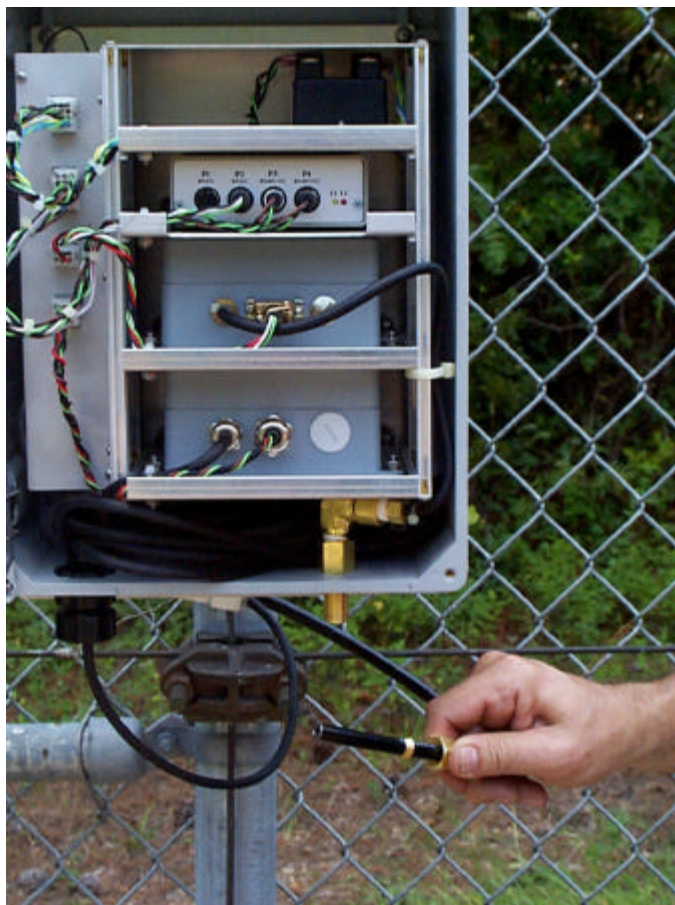

Figure 9 Connecting the Barometric Pressure Hose
13. Connect the pressure hose extending from the base of the fold-down arm to the Swagelock fitting on the bottom of the GSOS Payload. The Swagelock fitting uses a ferrule that crimps down on the pressure hose when the nut is tightened. As shown if Figure 9, remove the nut and ferrule from the fitting, and install the nut and ferrule on the pressure hose. Fully insert the hose into the bulkhead, and tighten the nut 1 and 1/4 turns past finger tight.